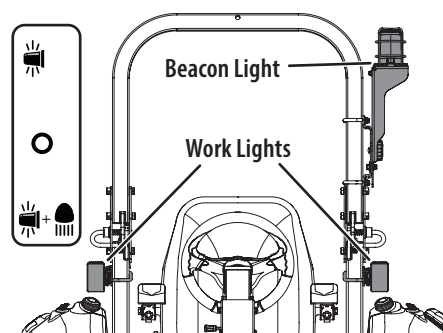

Figure 25
- Beacon Light and Work Lights ON (left position) (Figure 25).